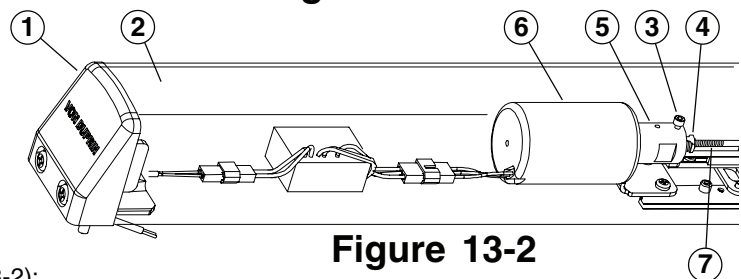

Figure 13-2
C. Adjust solenoid if dogging rod is too **long** (see Figure 13-2):
1. Remove end cap ① and dogging cover ②.
2. Loosen cap screw ③.
3. Hold plunger ⑤ depressed in solenoid housing ⑥.
D. Solenoid adjustment if dogging rod adjustment is too **short** (see Figure 13-2):
4. Turn threaded bushing ④ out to lengthen dogging rod ⑦ so plunger ⑤ just bottoms in solenoid housing ⑥ and latch bolt is fully retracted.